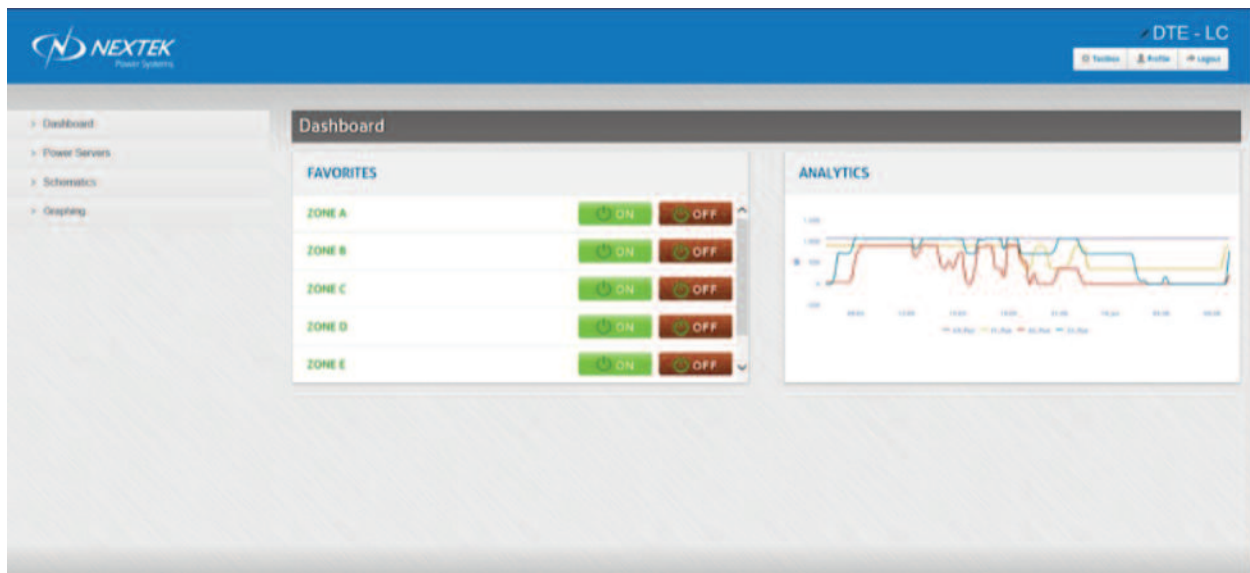

Figure 3
9.5.4 A page will appear that looks like Figure 3